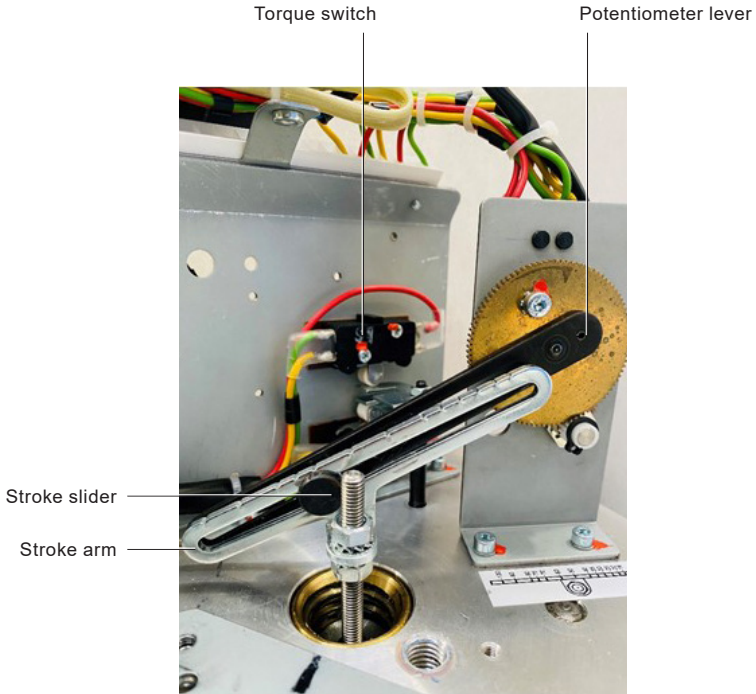

Fig. 30 8 kN+ AEL7 Stroke arm arrangement
The physical stroke of the 8 kN+ AEL7 Series actuator can be adjusted precisely to meet the valve stroke requirements, for example when the actuator thrust could damage the valve. This is controlled by Stroke Dependent Switch S3. Increasing or decreasing the stroke will impact the resolution of the potentiometer. Ensuring that potentiometer resolution is maintained is controlled by the Stroke Arm and Stroke Slider (Figure 30).
- The Stroke Arm and Potentiometer Lever should be parallel (Figure 30)